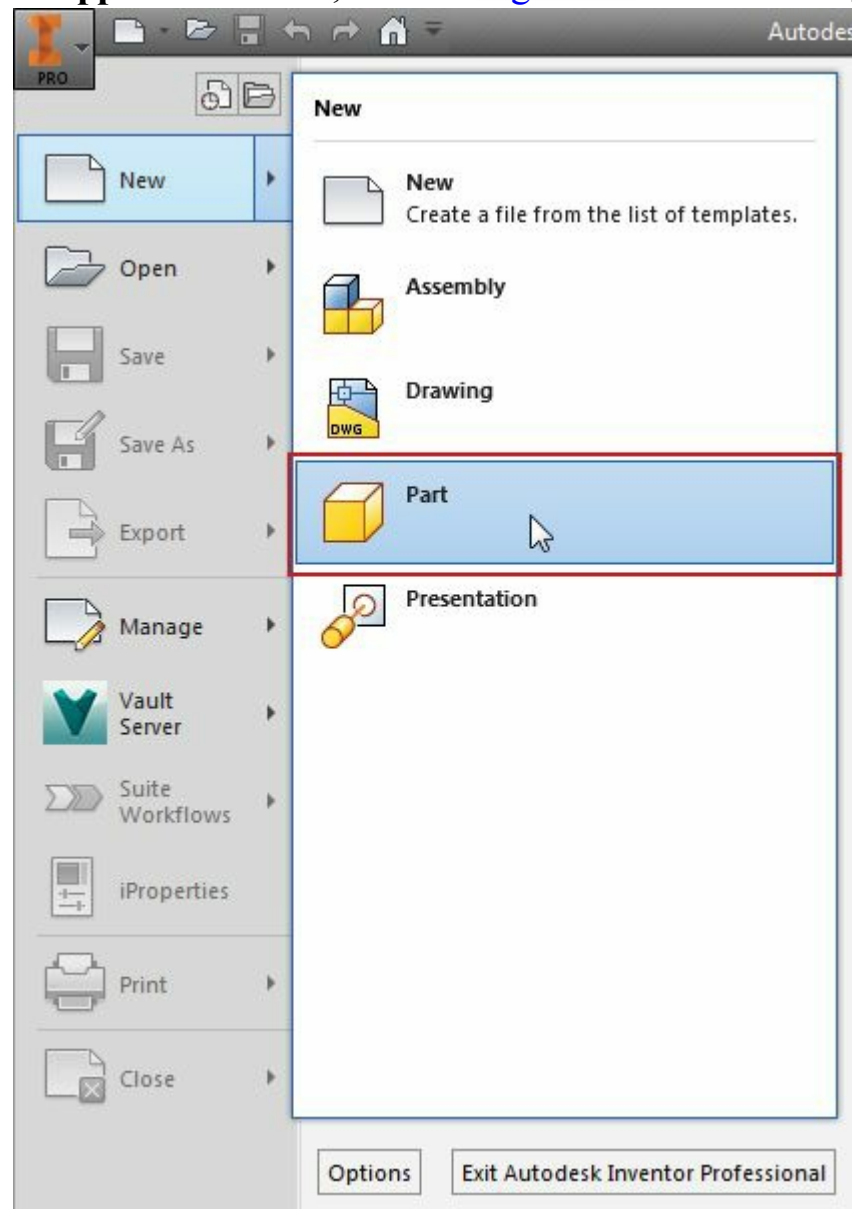

Figure-19. Part option from Application menu
- After starting Autodesk Inventor, click on the **Part** option from the **New** cascading menu in the **Application** menu; refer to Figure-19. The modeling environment will be displayed.